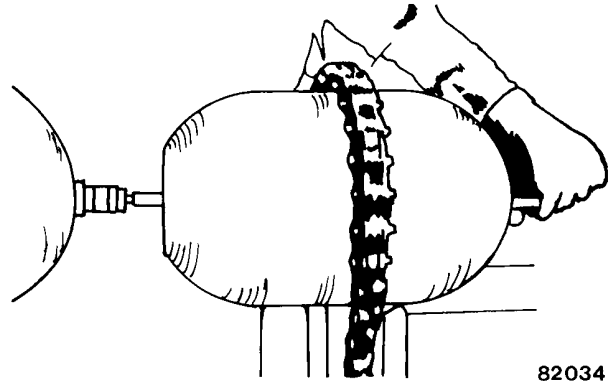

FIGURE 3-18. BLADDER INSTALLATION
5. Pass bladder pull rod through shell oil port and out through valve stem opening. (Refer to Figure 3-18).